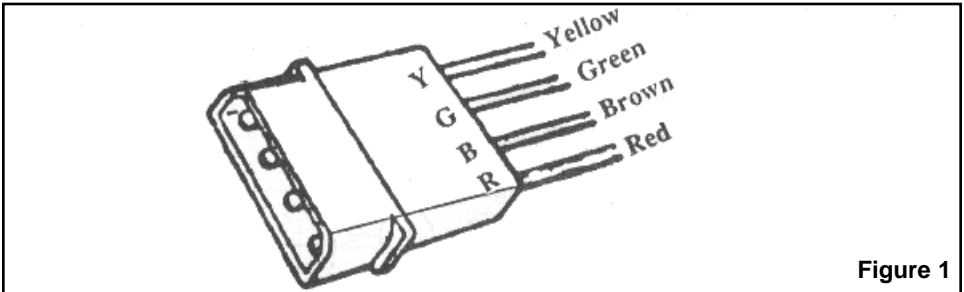

Figure 1
- A) Install 4-pin connector onto control switch wires. Red to “R”, Brown to “B”, Green to “G”, and Yellow to “Y”. (Figure 1)